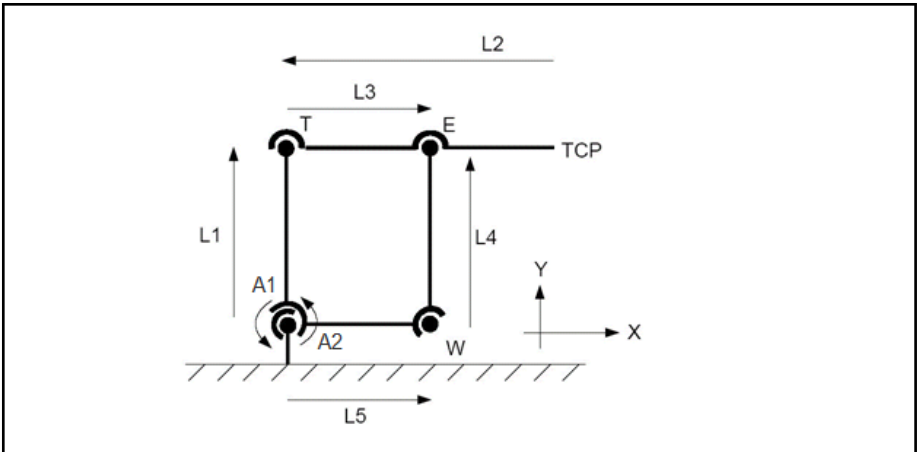

Fig. 4-18: Schematic view of 2-axis parallelogram V1
- fig. 4-18 "Schematic view of 2-axis parallelogram V1" on page 130 shows